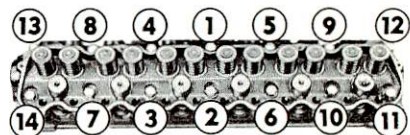

FIG. 19—Cylinder Head Bolt Tightening Sequence
5. The cylinder head bolt tightening procedure is performed in three progressive steps. Follow the sequence shown in Fig. 19. Tighten the bolts to 55 foot-pounds torque, then tighten the bolts to 65 foot-pounds torque. Finally, tighten the bolts to 75 foot-pounds torque. **After the cylinder head bolts have been tightened to specifications, the bolts should not be disturbed.**